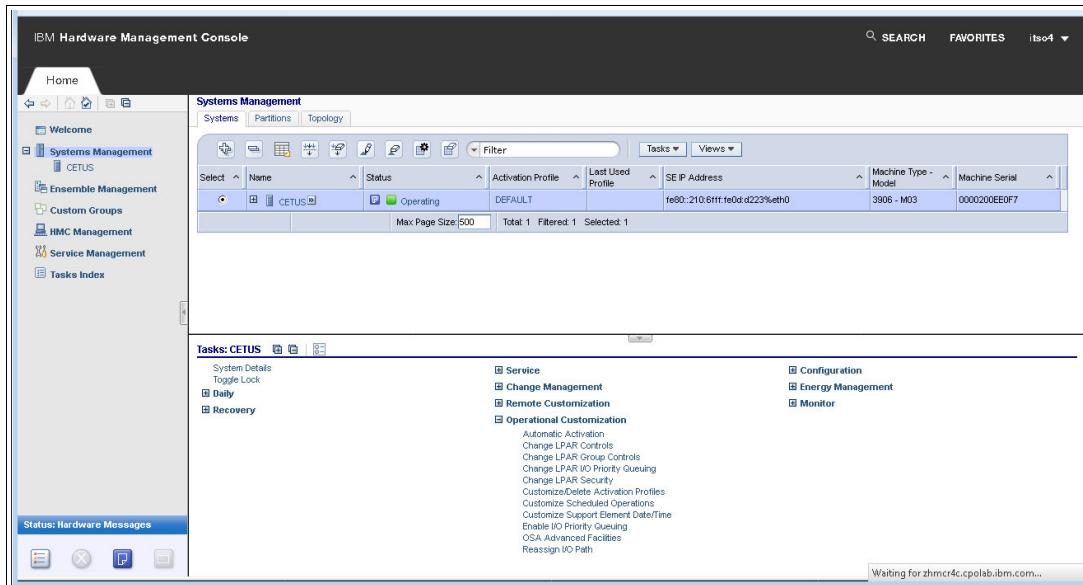

Figure 5-45 Systems Management: Main display
- On the Tasks panel, click **Operational Customization** to expand it, and select **Customize/Delete Activation Profiles** (Figure 5-45).